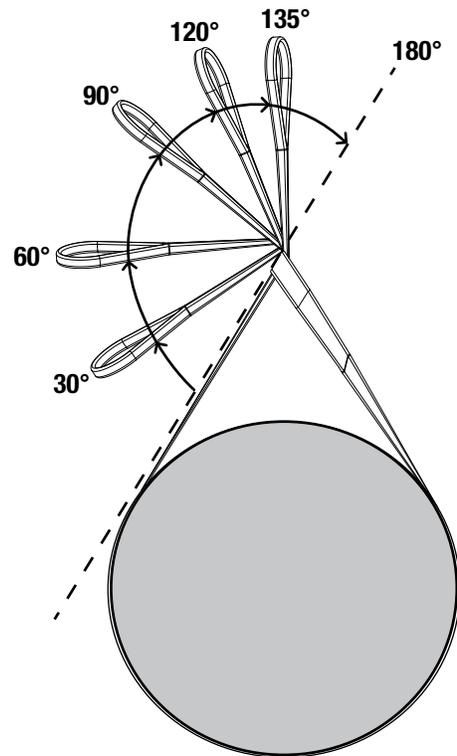

Figure 3. Choke Angle
3. If the **choke angle** (Figure 3) is 120 degrees or less, the lifting strength of the slings must be de-rated as shown in Table 1, in accordance with ASME Standard B30.9.